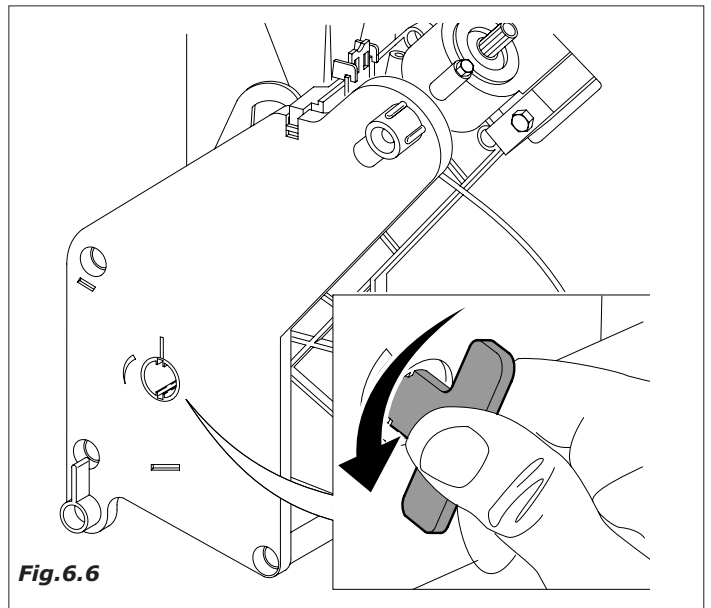

Fig. 6.6
- remove all coffee powder residue; the unit can be removed from its housing to make the task easier (Fig. 6.6)